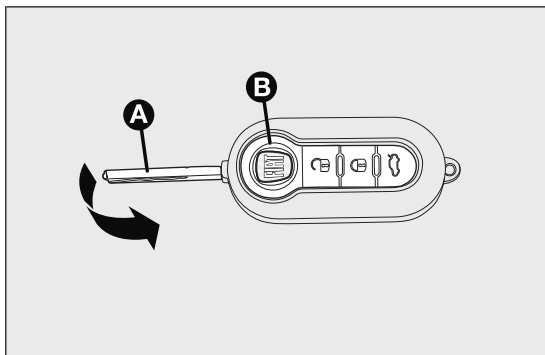

fig. 7
The key is provided with a metal insert A fig. 7, which operates:
**Press button B fig. 7 only with the key away from your body, specifically from your eyes and from objects which could get damaged (e.g. your clothes). Do not leave the key unattended to avoid the button being accidentally pressed while it is being handled, e.g. by a child.**